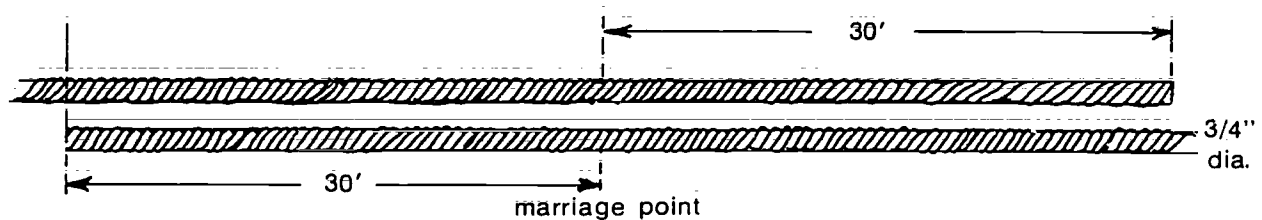

Figure 7-50. Marriage Point of Two Ropes
- Step 1. Mark off 1/2 the total splice length from each of the two rope ends. These marks represent the point of marriage (Figure 7-50).